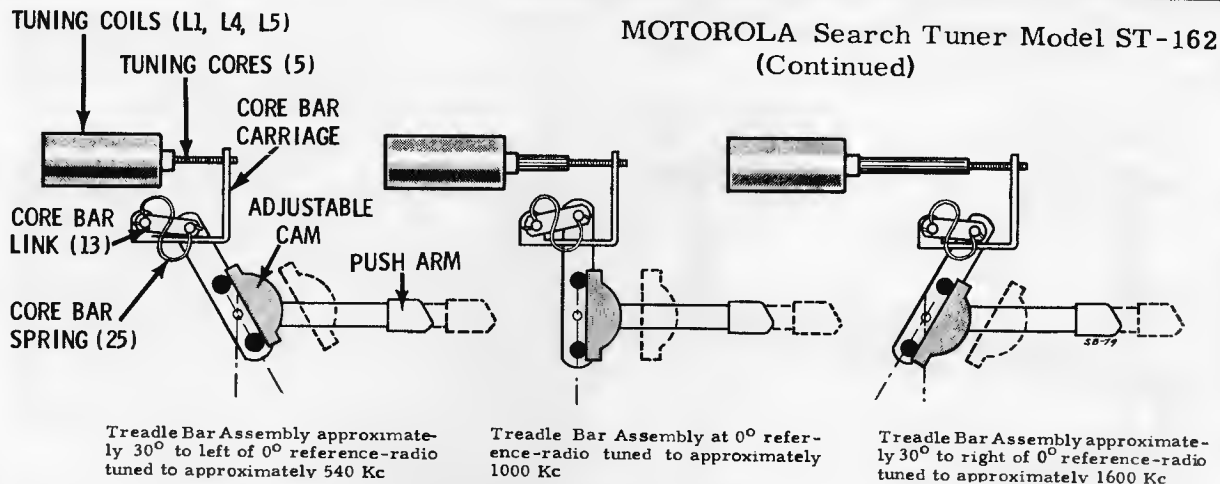

FIGURE 3. TREADLE BAR ASSEMBLY
When the manual tuning shaft is turned, the tuning gear and pinion gear (see Figure 2) rotate the crown gear and pinion assembly (6), which rotates the split gear and bushing assembly (7). As the split gear and bushing assembly (7) is frictionally coupled to the clutch and disc assembly (4), which is fixed to the treadle bar assembly, the treadle bar assembly moves the cores (5) in or out of the coils (L1, L4 & L5). Figure 3 shows that the different angles to which the treadle bar assembly may be moved, correspond to different frequency radio stations. The power transfer sequence is as follows: from the pinion gear of the manual tuning shaft (21) to the crown gear and pinion assembly (6), from the crown gear and pinion assembly (6) to the split gear and bushing assembly (7), from the split gear and bushing assembly (7) to the clutch and disc assembly (4), from the clutch and disc assembly (4) to the treadle bar assembly which moves the cores (5). The pinion gear of the tuner drive shaft (22) contacts the tuning gear of the manual tuning shaft (21). Therefore, when the manual tuning shaft (21) is turned, the tuner drive shaft (22) turns along with it. The tuner drive shaft (22) couples the manual tuning shaft (21) to the search drive unit. As the power take-off gear
This tuner is equipped with five pushbuttons which may be set up in any sequence to tune any radio station within the tuning range of the radio. To set the pushbuttons, the station is first tuned in with the manual tuning knob; this adjusts the angle of the treadle bar assembly (see Figure 3) to an angle corresponding to a radio station. The pushbutton is then unlocked by pulling it out; this actually unlocks the adjustable cam on the push arm. When the pushbutton is depressed, the cam is locked to the angle of the treadle bar assembly and remains at that angle until changed. Therefore, whenever a pushbutton is depressed it will return the treadle bar assembly to the angle to which the cam was set.